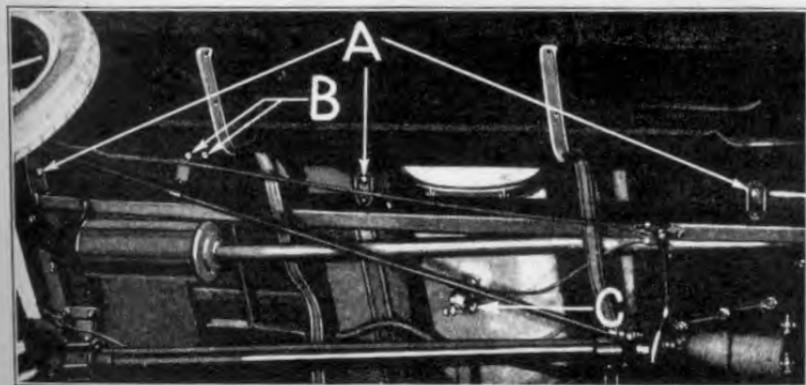

Fig. 12
- (a) Run off nuts on the six body bolts, (three on each side of car, See "A" Fig. 12). Run out the two wood screws "B", which hold each running board shield to body.
- 28 **Shut off gasoline** by closing the cock on sediment bulb underneath gasoline tank (See "C" Fig. 12).